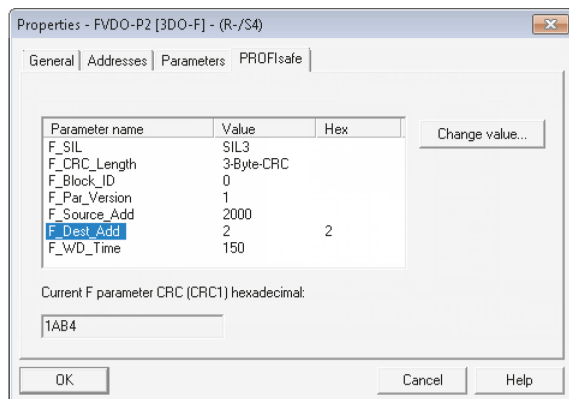

Fig. 30: PROFIsafe parameters
- Set the correct PROFIsafe target address under [F_Dest_Add] (➔ Fig. 30). The setting must match the DIL switch setting on the module (➔ Fig. 25).